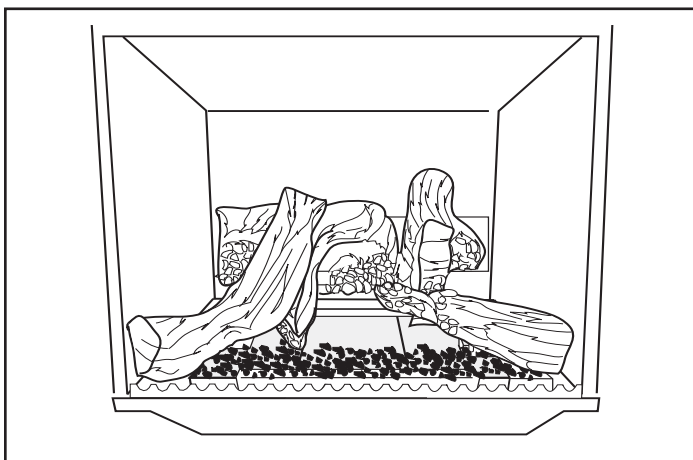

Figure 2.10 - Sundance logs in place.
5. Loosely sprinkle the lava rocks directly on top of the burner just behind decorative grate, Figure 2.10. Do not place lava rocks toward back of burner. The lava rock is shipped inside the bag assembly.